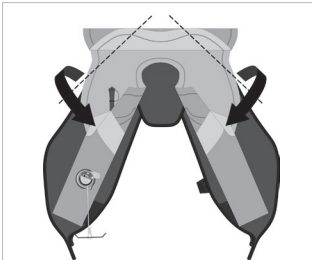

FIGURE 64
11. Fold corners of the bladder to the inside, along fold lines 11 and 12 (Fig 64).